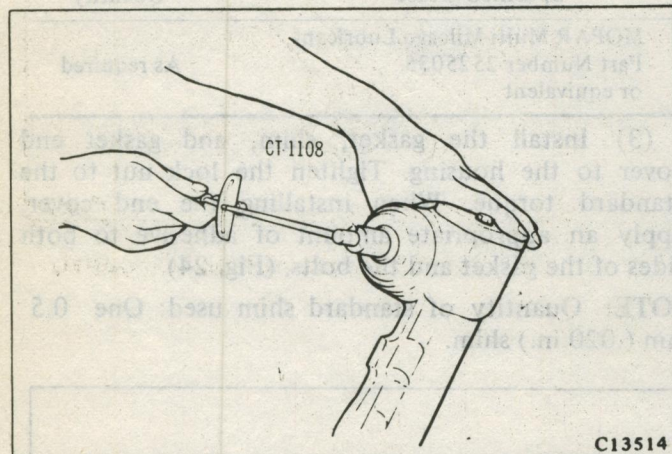

Fig. 25 Adjusting the Mainshaft Preload
(2) Measure the mainshaft preload using the special tool (CT-1108). If the measured preload is beyond the specified torque range, adjust it by reducing or increasing the assembled thickness of the shim(s). (Fig. 25)